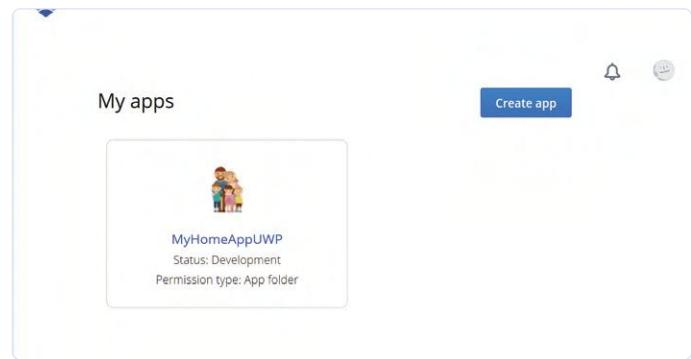

Figure 4: Set up an app in the Dropbox developer portal.
**Integration of cloud storage:** To display photos, it is best to make use of one of the standard cloud storage facilities such as Dropbox or OneDrive. These services offer their own API for access via external apps and an SDK for many programming languages. The free version of Dropbox provides 5 GB of space which you can use to store pictures for example. You can access the developer area directly in the online portal. Set up an app at Dropbox (**Figure 4**). You can configure the app via the portal, for example to which folder within the Dropbox structure you want to allow access. From the outside there are several ways of accessing the data (photos) in Dropbox, via user name and password (authentication) or without user interaction using a unique key (Key, App Secret). The latter variant is optimal for us because the app simply identifies itself with such a key in dropbox. We use the SDK for .NET Core, which we can then integrate directly into our app. Reading the photos from Dropbox